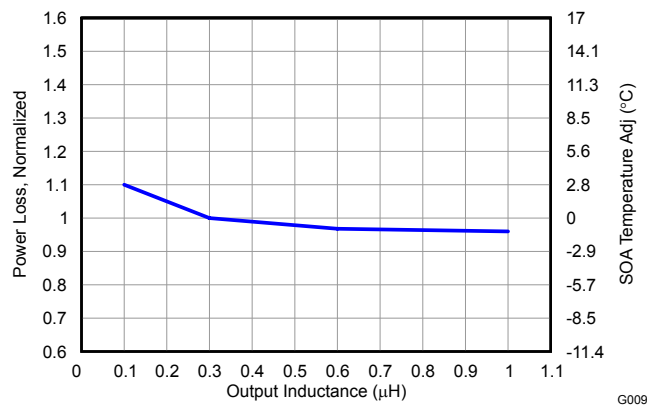

Figure 15. Normalized Power Loss vs Output Inductance
- Normalized Power Loss for output inductor  $\approx$  1.06 (Figure 15)
- SOA adjustment for output inductor  $\approx$  1.6 $^{\circ}$ C (Figure 15)